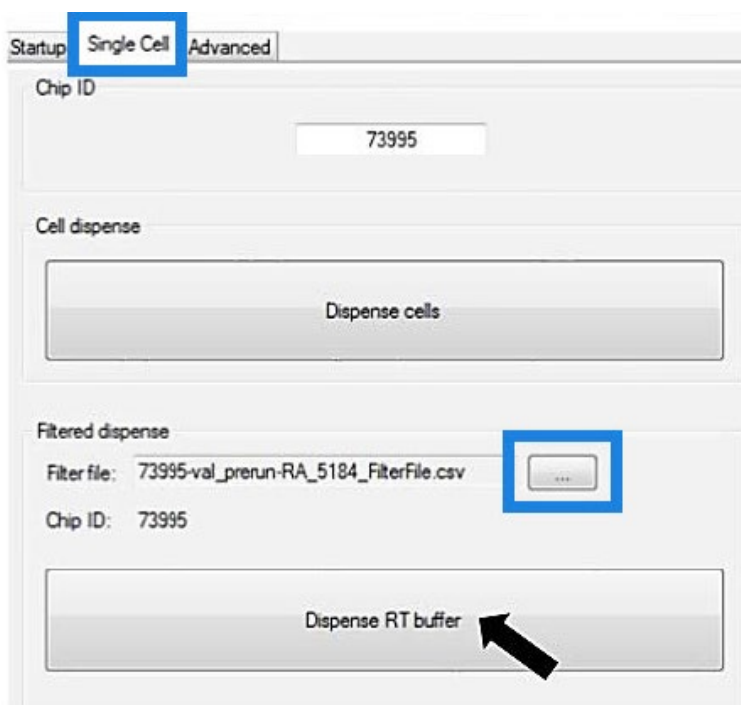

Figure 38. Loading the filter file and dispensing RT-PCR mix with the MSND software.
- In the ICELL8 MSND GUI, load the filter file generated in the previous protocol (Section IV.D, above); click the *Single Cell* tab followed by the [Browse] button ([...]; Figure 38, below) next to the “Filter file” field then select the appropriate filter file (.csv). Click within the “Chip ID” field and enter or scan the corresponding Chip ID (refer to the “ICELL8 MultiSample NanoDispenser User Manual” for more details).